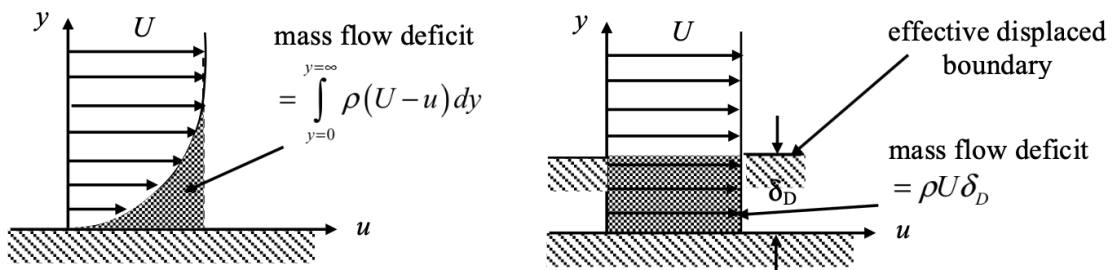

FIGURE 9.3. A schematic illustrating the displacement boundary layer thickness definition.
- (2) *displacement thickness, δ_D or δ^* .* The displacement thickness, δ_D , is the distance at which the undisturbed outer flow is displaced from the boundary by a stagnant layer of fluid that removes the same mass flow as the actual boundary layer profile (Figure 9.3),